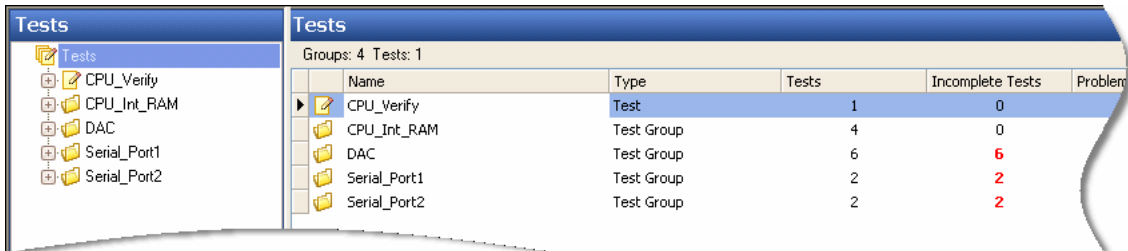

Figure 27 Incomplete tests shown in red
- 2 Select **Tests** at the top of the tests explorer pane. Notice the Incomplete Tests column in the detail pane. The number of incomplete tests, if nonzero, is listed in red for each test or test group (see Figure 27).